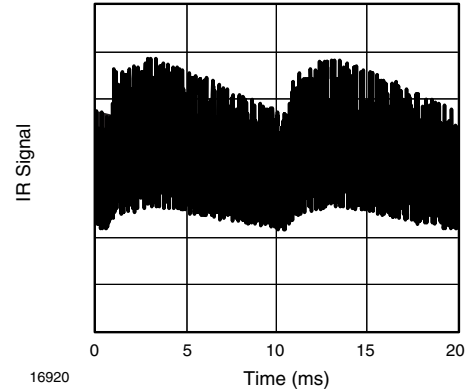

Fig. 13 - IR Signal from Fluorescent Lamp with Low Modulation
- Strongly or weakly modulated patterns from fluorescent lamps with electronic ballasts (see figure 12 or figure 13)
| Suppression of interference from fluorescent lamps | Even critical disturbance patterns are suppressed (example: signal pattern of fig. 12 and fig. 13) | Even critical disturbance patterns are suppressed (example: signal pattern of fig. 12 and fig. 13) |